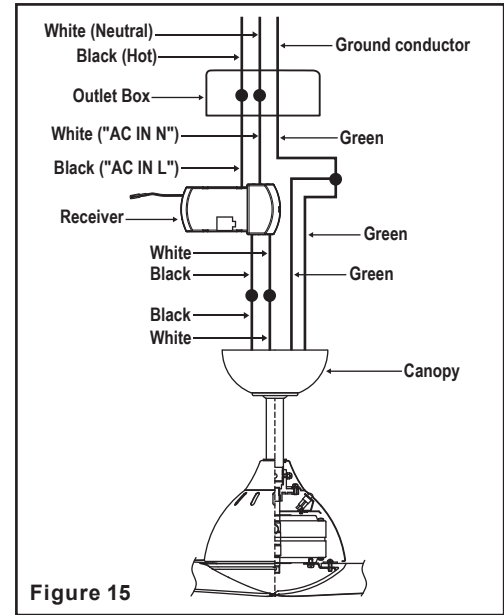

Figure 15
Step 2. Make wire connections from the fan to the receiver. (Fig. 15)
Step 3. Make wire connections from the receiver to the outlet box. (Fig. 15)